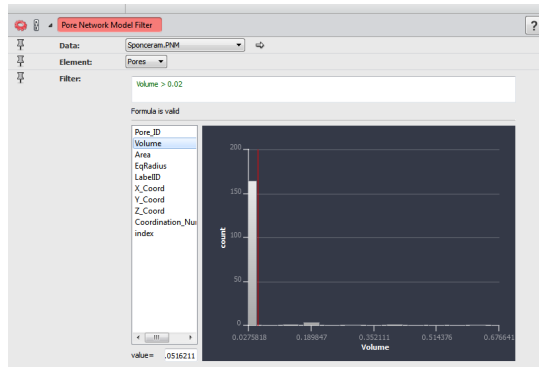

Figure 18.22: Parameters of the Pore Network Model Filter Module
7. Filter the data to keep only pores with volume greater than 0.02. Create a *Pore Network Model Filter* module on the generated PNM and then add $Volume > 0.02$ in the Filter port. You can visualize the filtered network by changing the Data port of the Pore Network Model View and setting it to the new network (see Figures 18.22 and 18.23).